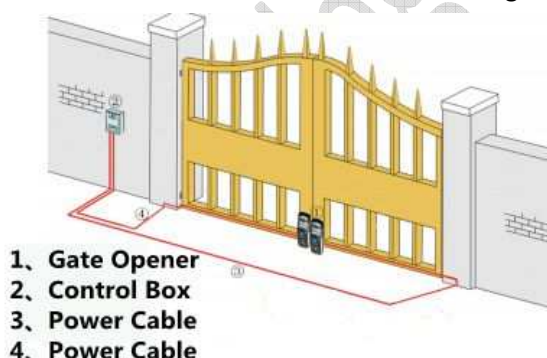

Fig.2
2.Control and power distribution structure,as shown in Fig.2
4. Bury the wire pipes with reference to the wiring diagram of the power distribution system of the gate opener(Fig.2) and determine the diameter and number of cores of multi-strand flexible wires(power cables).